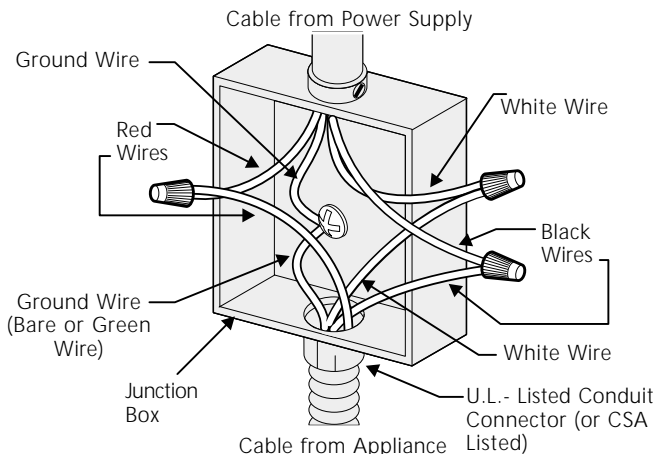

Figure 3 – 4-WIRE ELECTRICAL SYSTEM
2. When connecting to a 4-wire electrical system, when installing in a mobile home, or when local codes DO NOT permit connecting the cabinet-grounding conductor to the neutral (white) junction box wire (see Figure 3)